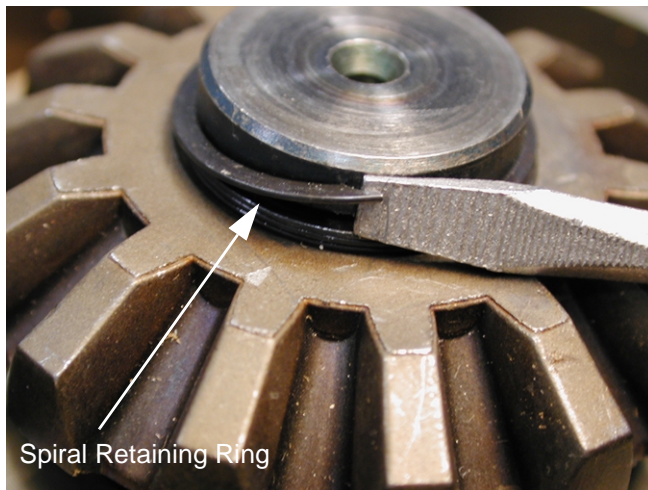

Figure 31
42. Remove both spiral retaining rings from the left axle using a flat-blade screw driver. See Figure 31.